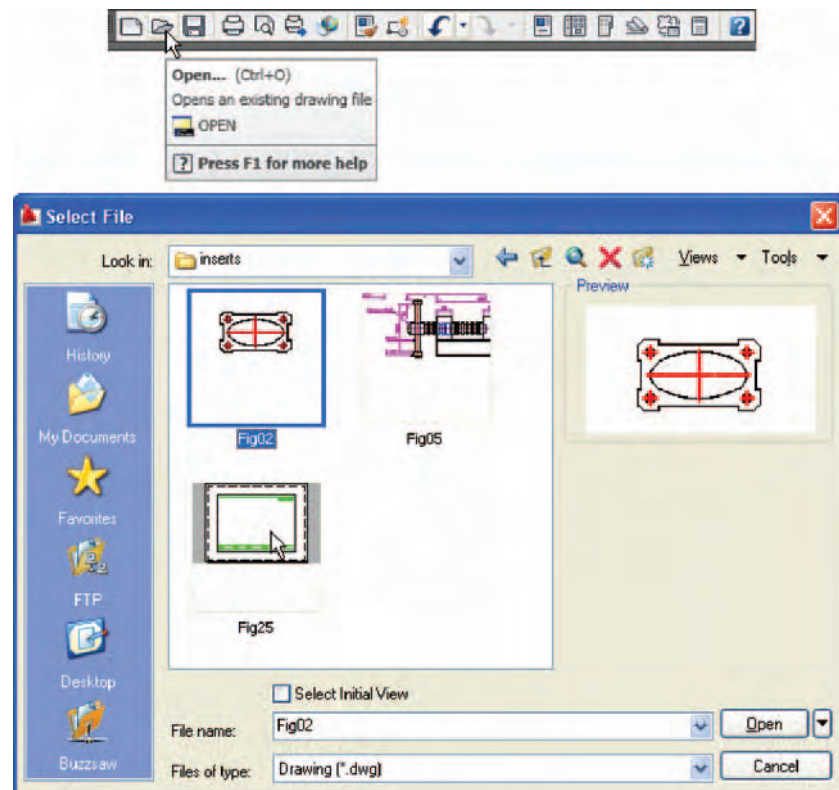

Fig. 1.9 The **Open...** icon in the **Standard Annotation** toolbar brings up the **Select File** dialog
- **Standard Annotation toolbar:** One of the toolbars just below the ribbon includes the **Open...** icon (Fig. 1.9). A *click* on the icon will bring the **Select File** dialog on screen.